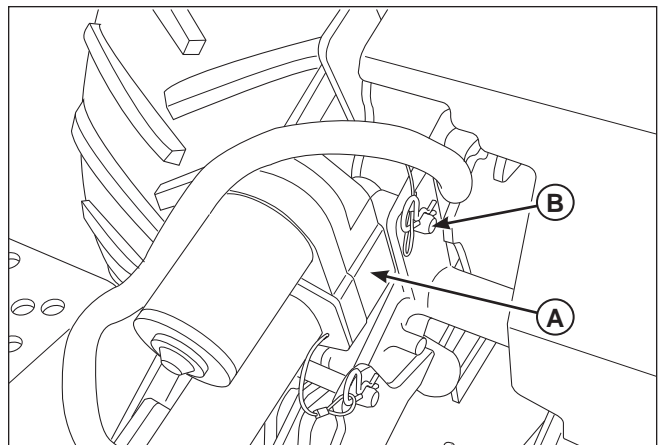

Figure 15. Actuator
7. Disconnect the rear of the actuator (**A, Figure 15**) from the zero-turn rider by removing the pin with lanyard (**B**).